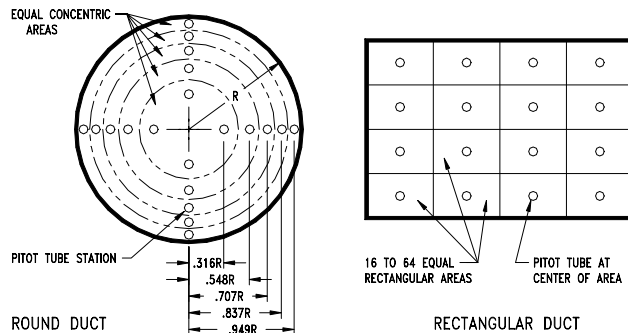

Fig.2 – Traverse on round and square duct areas.
- 2) Insert Pitot tube in duct with tip pointing upstream and make a traverse according to fig. 2. Refer to chart of fig. 3 to determine air velocity for each traverse point at standard conditions 70°F and 29.92 inches of mercury barometric pressure with a resulting density of .075 Lb/cu.ft) or use following formulas to compute air velocity at conditions other than standard. The velocities are then averaged.